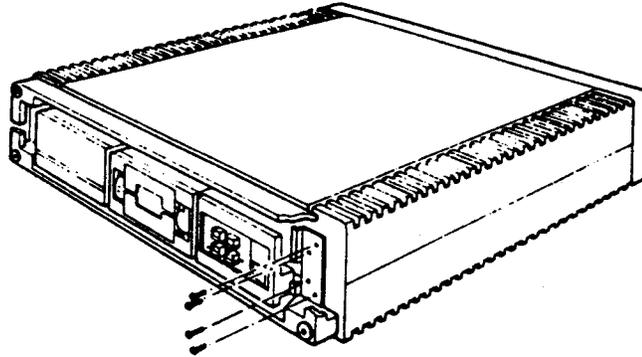

Figure 4-9: Front Bracket Removal
5. Remove the front chassis retaining bracket by removing the screws that secure it to the enclosure (Figure 4-9).